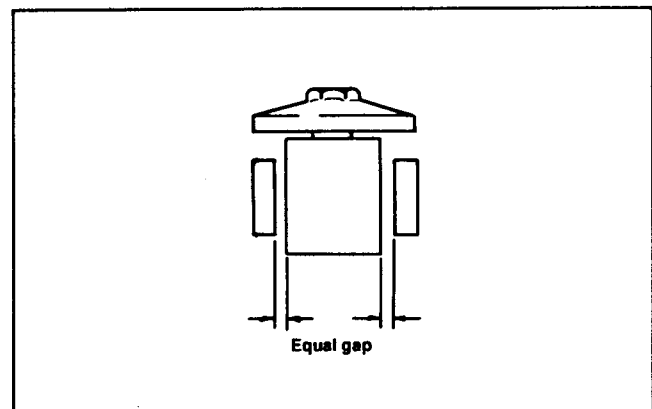

Figure 32
13. Thread adjustment knob and pivot assembly into flat side of bedbar pivot (left-hand thread). Make sure there is an equal gap between each side of pivot assembly housing and frame supports (Fig. 32). Adjust (before installing pivot screws) by sliding bedbar pivot sideways.